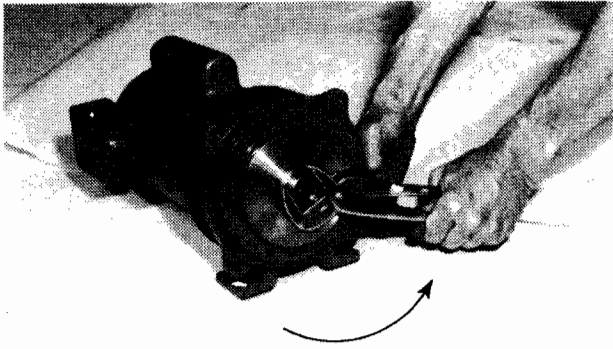

Figure 18
6. Remove impeller with pliers. (See Fig. 18). RIGHT HAND THREAD CCW FACING THE IMPELLER TO REMOVE.